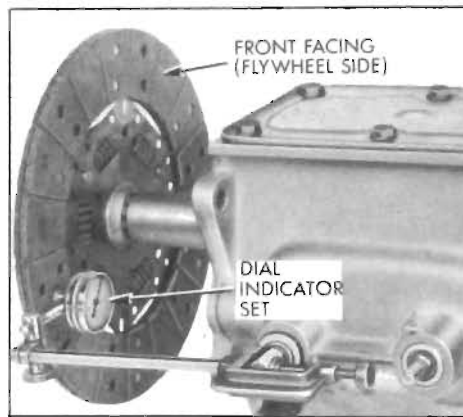

Figure 4-7—Checking Driven Plate For Run-Out
plate, front side first, over the transmission main drive gear until it is tight on the spline, then setting up a dial indicator to bear against the plate facing as shown in Figure 4-7. While holding firmly against front end of main drive gear bearing, slowly rotate driven plate and observe the amount of run-out shown by indicator. If run-out of front facing exceeds .025", the plate should not be used since it is not practical to correct excessive run-out by bending.
6. Lubricate the recess on the inside of the throw-out bearing collar. See Figure 4-7.